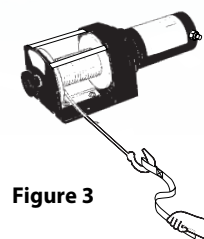

Figure 3
8. Never put your finger through the hook. If your finger should become trapped in the hook, you could lose your finger. ALWAYS USE THE HANDSAVER when guiding the winch rope in or out (See Figure 3).